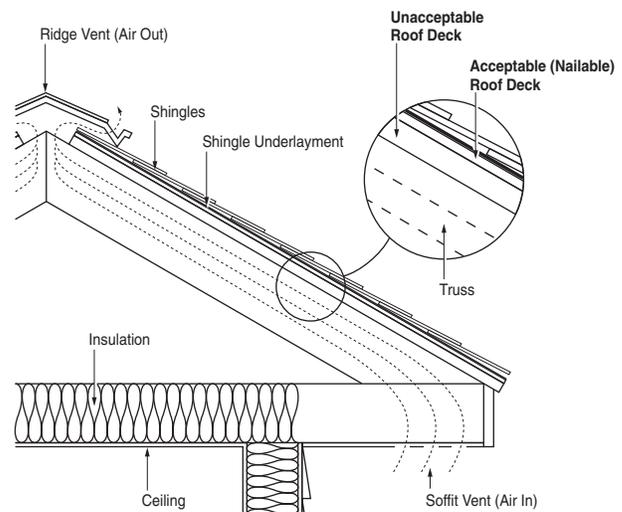
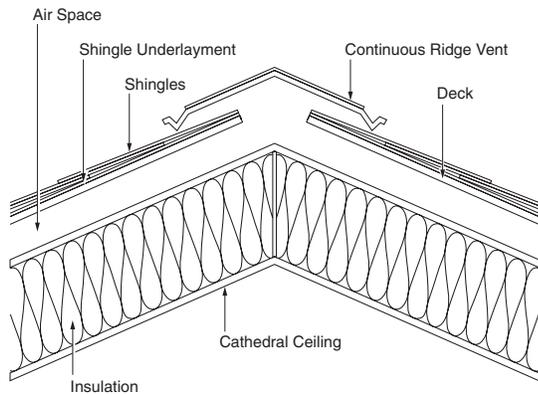

Figure 4-2: An acceptable deck applied over an unacceptable deck.
Figure 4-3: Preferred application method for a cathedral ceiling.
A good rule of thumb is to use a minimum of 9 square inches Net Free Ventilation Area per foot of run, which calculates to about  $3/4$ " space. More ventilation space is almost always better, especially at low slopes and long rafter lengths. (also see figure 4-3).
**DECKING OVER AN UNACCEPTABLE DECK:** The proper installation of an acceptable deck material over top of the unacceptable material described above is required to achieve an acceptable roof deck surface onto which CertainTeed roofing shingles may be applied. Fastening of the acceptable deck should be done in accordance with instructions provided by the manufacturer of the deck into which fasteners will be driven. (see figure 4-2)
Figures 4-2 and 4-3 are construction schematics depicting examples of roofing systems that provide for isolation of the materials deemed "unacceptable" for direct shingle application and that are designed to provide an adequate surface to apply the shingles.
Figure 4-2 illustrates an application method where an acceptable deck is applied over an unacceptable deck which is properly ventilated beneath. Figure 4-3 illustrates a preferred application method for a cathedral ceiling, incorporating a soffit-to-ridge ventilation space beneath the top nailable deck and above the insulation of an “unacceptable” deck.